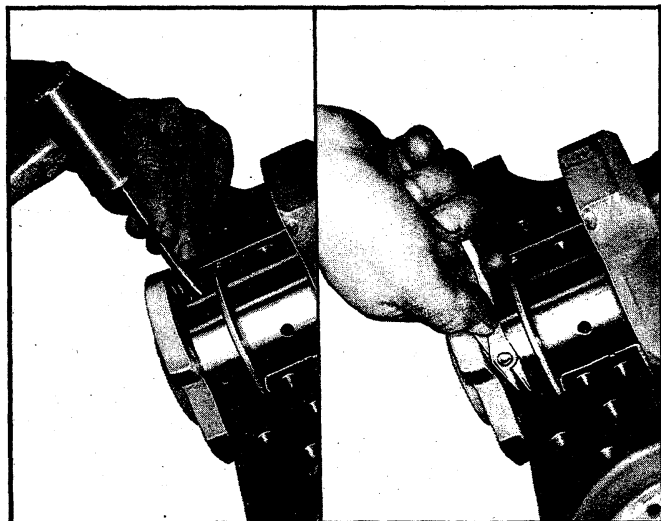

Fig. 11V - Removing Oil Seal (Upper Half)
4. To remove the upper half of the seal, use a small hammer to tap a brass pin punch on one end of seal until it protrudes far enough to be removed with pliers (fig. 11V).